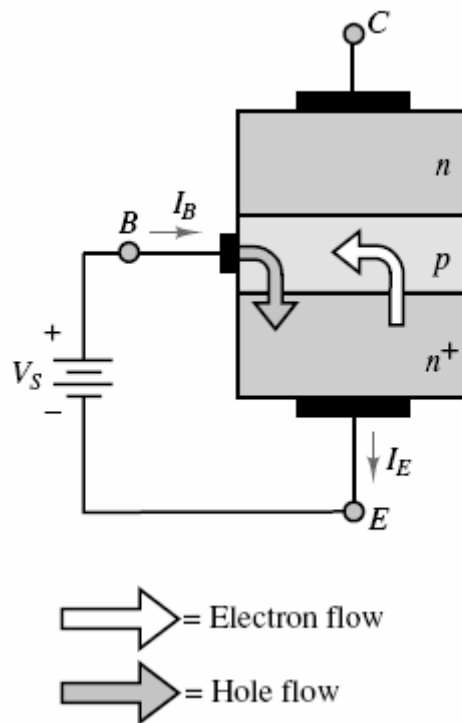

Figure 21. Current flow in an *npn* BJT
The operation of the *npn* BJT may be explained by considering the transistor as consisting of two back-to-back *pn* junctions. The **base-emitter (BE) junction** acts very much as a diode when it is forward-biased; thus, one can picture the corresponding flow of hole and electron currents from base to emitter when the collector is open and the *BE* junction is forward-biased, as depicted in Figure 21. Some of the electron-hole pairs in the base will recombine; the remaining charge carriers will give rise to a net flow of current from base to emitter. It is also important to observe that the base is much narrower than the emitter section of the transistor